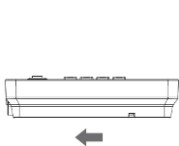
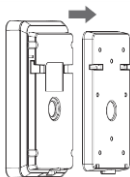

Figure 3
Figure 4
A. Remove the hanging shell in Figure 3 and Figure 4.